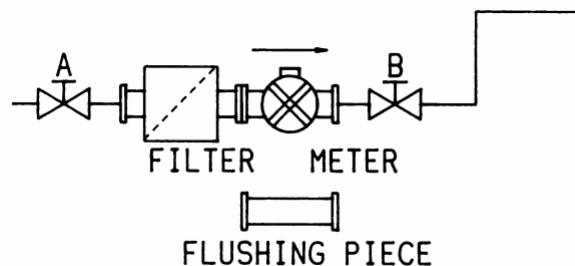

Figure 18 Flowmeter system without bypass
1. Close valves A and B (Figure 18).